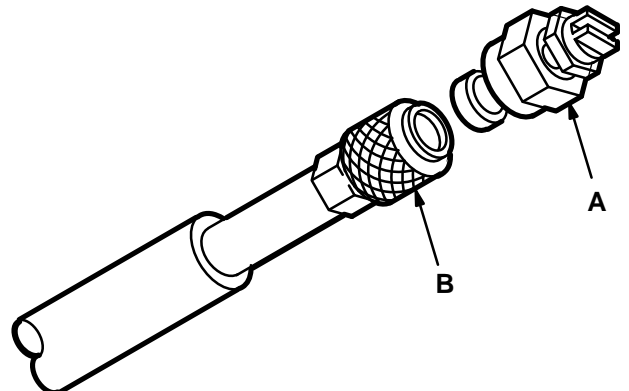

Figure 3
3. Without holding your hand over the spray tip (A), pull back the quick coupler ring (B). Remove the old tip and/or install a new one, and then release the ring. See Figure 3.